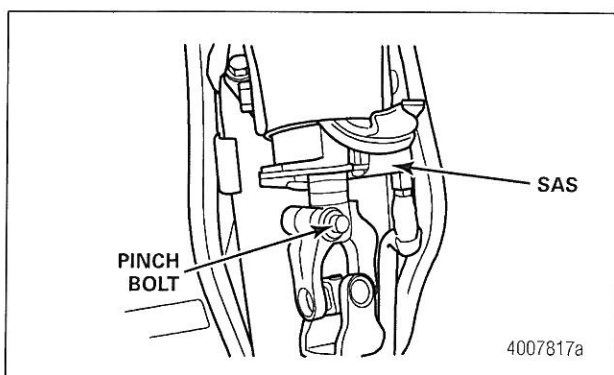

Figure 2
2. Use a screwdriver to remove the screws on the shroud covering the lower portion of the steering column. Remove the shroud. This will expose the connection between the steering shaft and the I-shaft. The SAS is mounted just above this joint. Figure 2.